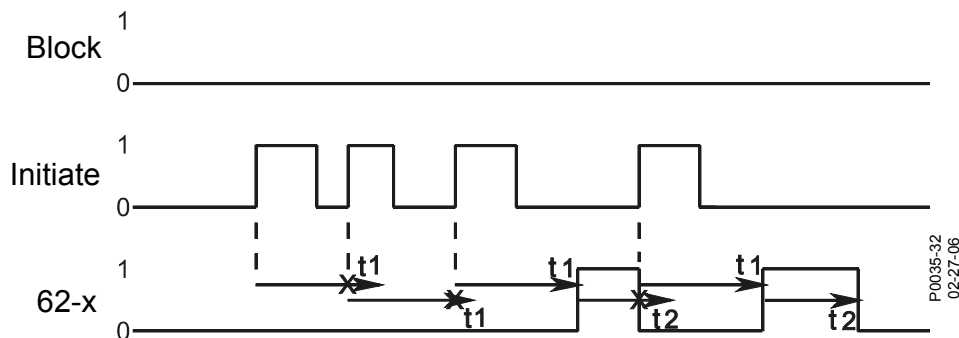

Figure 73-5. One-Shot/Retriggerable Mode
Step 7: Use the Metering Explorer in BESTCOM*Plus* to open the Reports, Sequence of Events screen. Verify that approximately 15 seconds after the second 43-1 OFF to ON initiate signal, the 62-1 timer output went true. Verify that the timer output went false when the third OFF to ON initiate signal forced the 62-1 time delay 1 to restart. Figure 73-5 illustrates the timing relationship of the 43-1 switch and 62-1 timer.